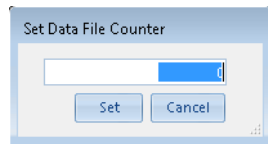

Figure 29 Set Data File Counter dialog box
- 6 Click **Set Counter**  in the *Date File Naming* group of the ribbon when you want to reset the counter used in data file naming. You can enter the reset counter value in the **Set Data File Counter** dialog box (see **Figure 29**).